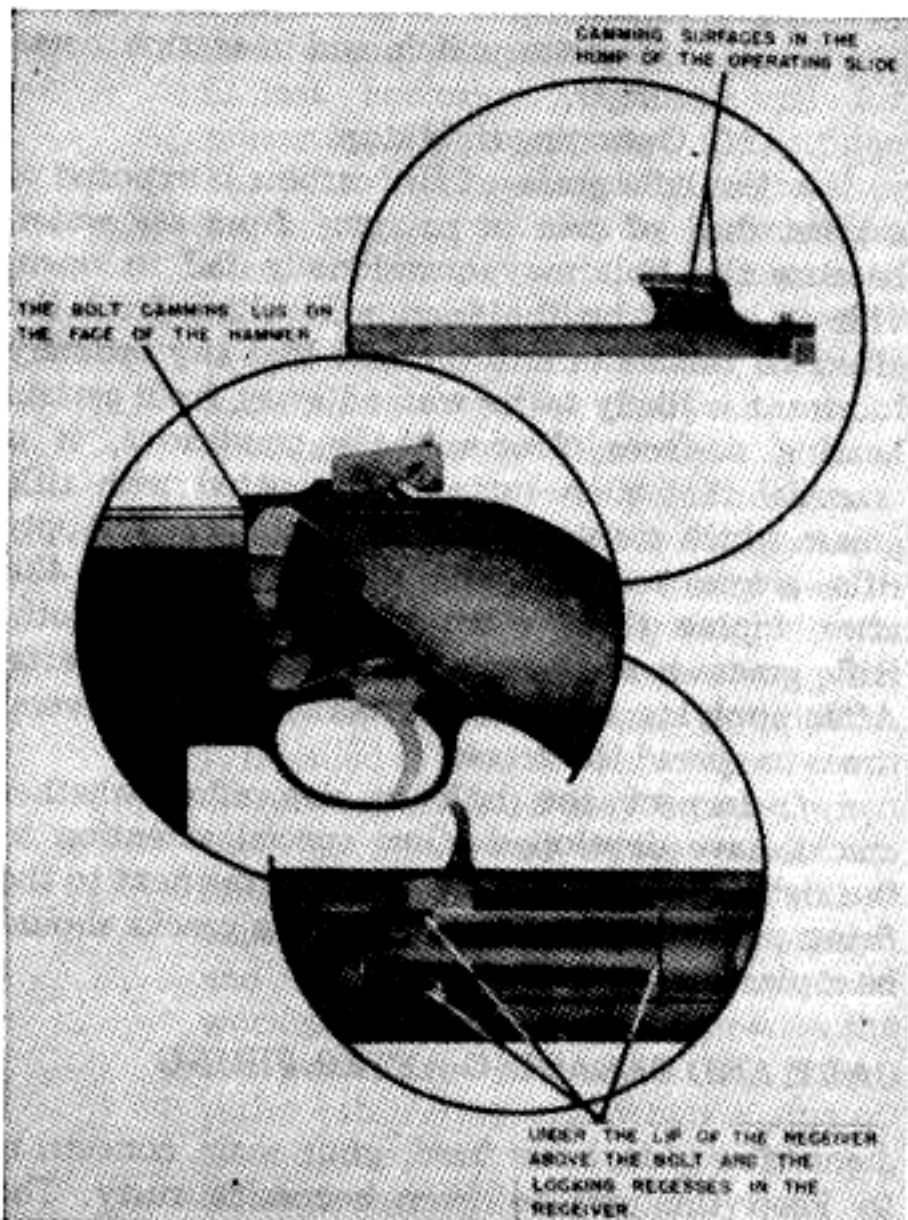

Figure 43b. Points on which to apply rifle grease.
- (3) Cocking cam on rear of bolt and firing pin tang recess.
- (4) Contact surface of barrel and operating slide.
- (5) Operating slide spring guide.
- (6) Operating slide handle grooves on side of the receiver.
- (7) Operating slide grooves in barrel.
- (8) Contacting surface of receiver and operating slide.
- (9) Cammed surfaces in the hump of the operating slide.
- (10) Piston.
- (11) Magazine catch and magazine catch plunger.
- (12) Operating slide stop.
*e.* Use rifle grease if the carbine is exposed to a great deal of rain or to spray from sea water, because the bolt may occasionally fail to open. This is caused by the friction resulting from the effect of the water and the fact that any ordinary lubricant is likely to be washed away from certain bearing surfaces. Under these conditions, it is essential that such surfaces be coated with rifle grease which resists the action of the water. Apply rifle grease to the parts shown in Figure 43b after wiping them clean and dry with a cloth. Rifle grease is not normally applied to other parts. After applying rifle grease, work the parts several times to spread the grease.
- (1) *Keep the bore and chamber clean.* Do not fire the carbine when dirt, mud, snow, or any other obstruction is in the bore. Such obstructions are extremely dangerous and may cause the barrel to swell or burst. Use a cleaning rod, if one is available, or the thong and brush which you should have. If these are not available, any slender rod or stiff wire can be used as a field expedient. Using any one of these, keep the bore and chamber clean and lightly oiled.
- (2) *Avoid excessive friction.* If the carbine shows signs of excessive friction due to lack of lubrication, apply oil to the parts that need it. If this friction is the result of dirt and there is no time to clean the carbine, use an extra amount of oil in the places needed. Friction is indicated if the empty cartridge cases are being ejected to the right rear or if the action of the bolt is sluggish. Apply oil at the first opportunity, as failure to chamber and eject will occur if the condition is not corrected.
- (3) *Use extra care under severe conditions.* If the carbine is to be exposed to severe conditions of rain or salt water, apply rifle grease. The points on which to apply this grease are shown in Figure 43b.